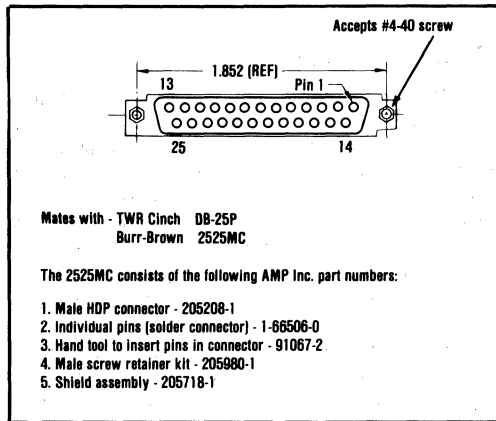
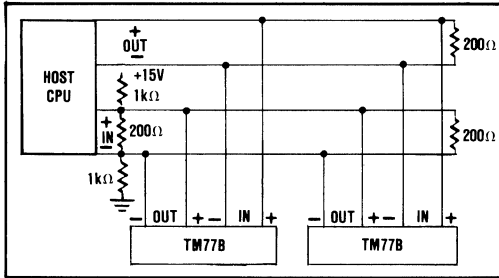

FIGURE 5. 25-Pin D Style Connector P1 Back Panel View.
FIGURE 10. RS-422 Electrical Connections.
Connector wiring for P1 (see Figure 5) may be accomplished with the aid of Tables VI, VII, and VIII. It is only necessary to connect +5V power, supply return, data transmit (TX), data receive (RX), and signal ground to make the TM77B functional. Note that supply return and signal ground are internally connected only if the 5VDC power supply option is used. Without further connections the TM77B will operate at 300bps, a marking parity bit, nonpolled operation, and the front panel RESET key disabled. Baud rate and polling addresses are set by connecting the indicated pins to signal ground (pin 7) on the mating connector. Parity and AE, the polling address extension, are set by connecting the indicated pins to ENABLE (pin 18). The RESET key is enabled by connecting a jumper between pin 19 and pin 21 of P1. Request to Send and Clear to Send RS-232-C functions are operative if required by the host system or modem. Clear to Send input is active if left open-circuited. Data Terminal Ready output is continuously active (detailed connection diagrams are provided in Figures 10 and 11).
RS-422 electrical connections are in Figure 10. All terminals are connected in parallel. Note that resistors are recommended at the end of the transmission lines